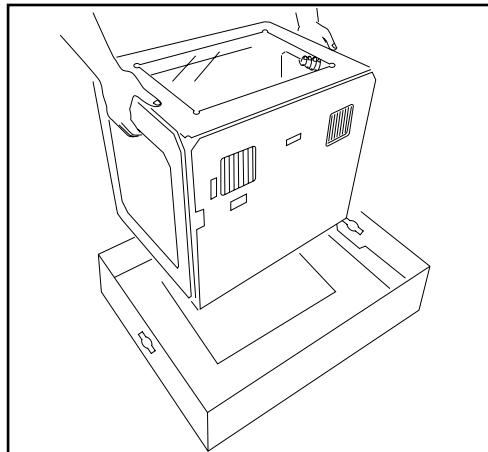

Figure 2.5 Lift out the 3D printer
- ③ After taking the printer out of its protective bag, grasp it firmly by the sides and lift it onto a table (fig. 2.5).